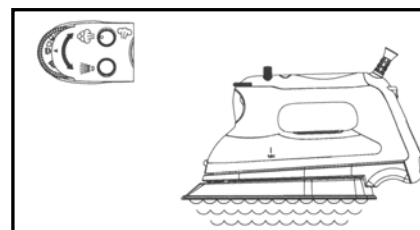

Fig. 2
4. Place the iron on its heel on a stable, protected surface and allow the iron to heat for approximately **two (2) minutes** or until the temperature settings on the right side of the LED display panel have stopped flashing.
5. Turn the variable steam control dial to the right to increase the amount of steam. When using extra steam, the iron uses more water and it may be necessary to fill the water tank more often. (Fig. 2)